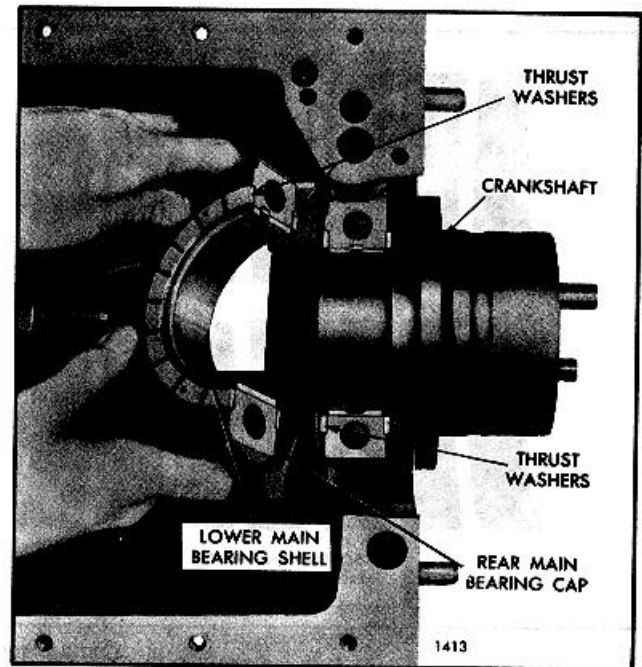

Fig. 8. Crankshaft Thrust Washers in Place
3. Assemble the crankshaft thrust washers (Fig. 8) before installing the rear main bearing cap. Clean both halves of each thrust washer carefully and remove any burrs from the washer seats -- the slightest burr or particle of dirt may decrease the clearance between the washers and the crankshaft beyond the specified limit. Slide the upper halves of the thrust washers into place. Then assemble the lower halves over the dowel pins in the bearing cap.